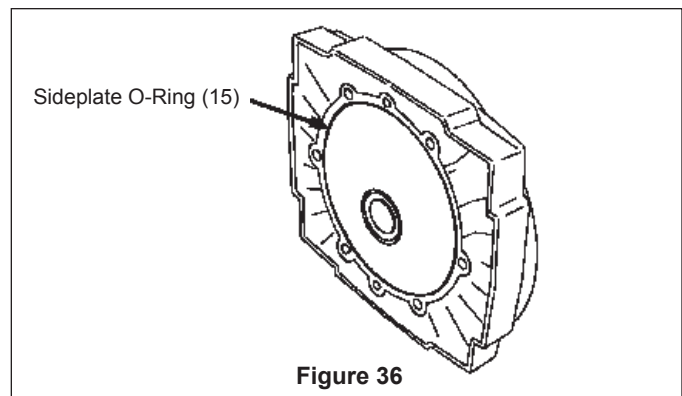

Figure 36
- Install a new sideplate O-ring (15) into the groove. Ensure the O-ring does not become pinched when attaching sideplate to body. See Figure 36.